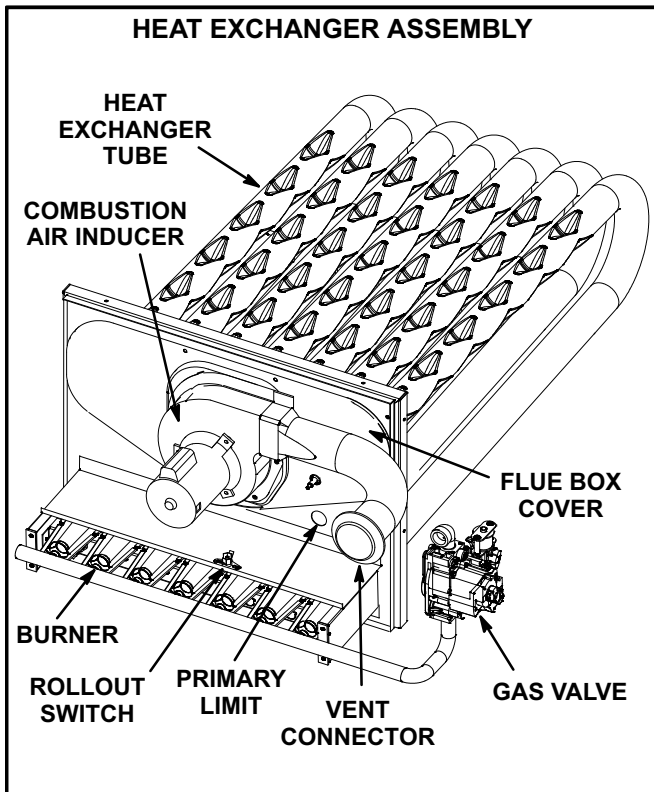

FIGURE 31
Limit controls are factory-set and are not adjustable. The primary limit is located to the right of the combustion air inducer. See figure 31.
- 4- Remove and retain screws securing combustion air inducer to flue box. Remove vent connector. See figure 31.